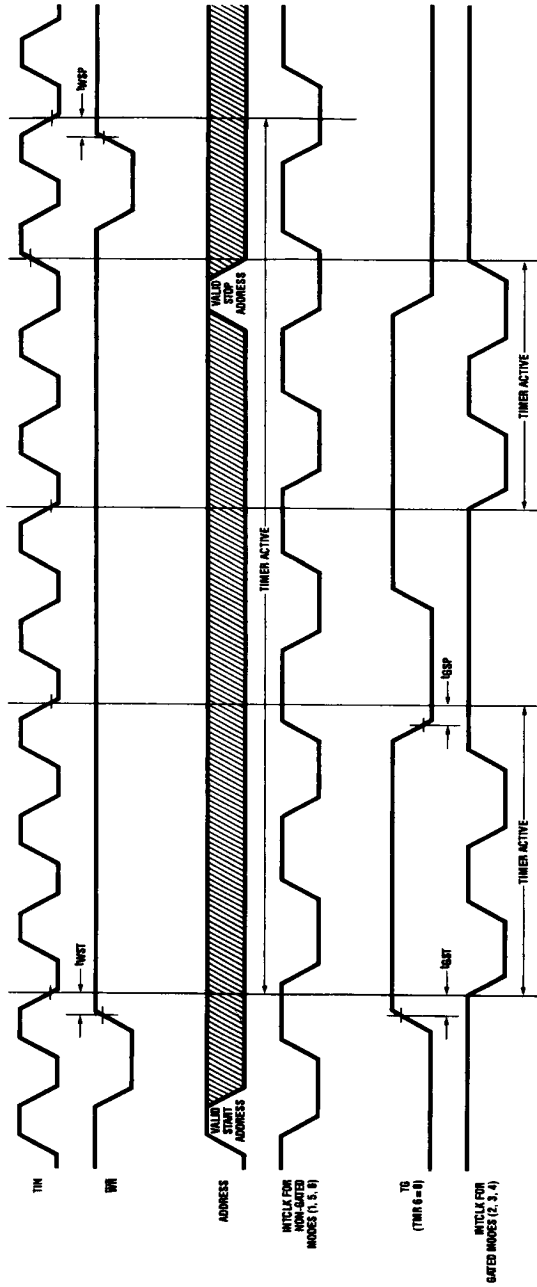

FIGURE 5. Start/Stop Timing
*Figure 5* shows the relationships between the  $\overline{WR}$  signal (start register), TIN and INTCLK for both the non-gated and gated modes. The TG signal is only sampled during the positive half of the TIN cycle. This means that when the gated modes are used the internal clock (INTCLK) is never stopped in the low state. Hence, when TG goes active high INTCLK is restarted on the next high-to-low transition of TIN. When TG goes inactive low INTCLK will stop as soon as TIN is high.